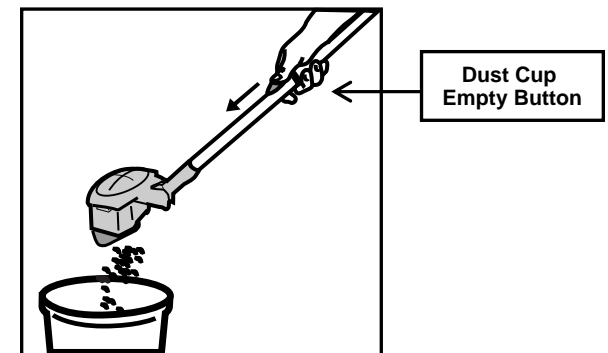

Fig. 8
2. Lift out the **dust cup container**, which is connected to the steering pivot. Hold over a trash bin and push down on the **dust cup empty button** located on the lower extension tube. (Fig. 8)